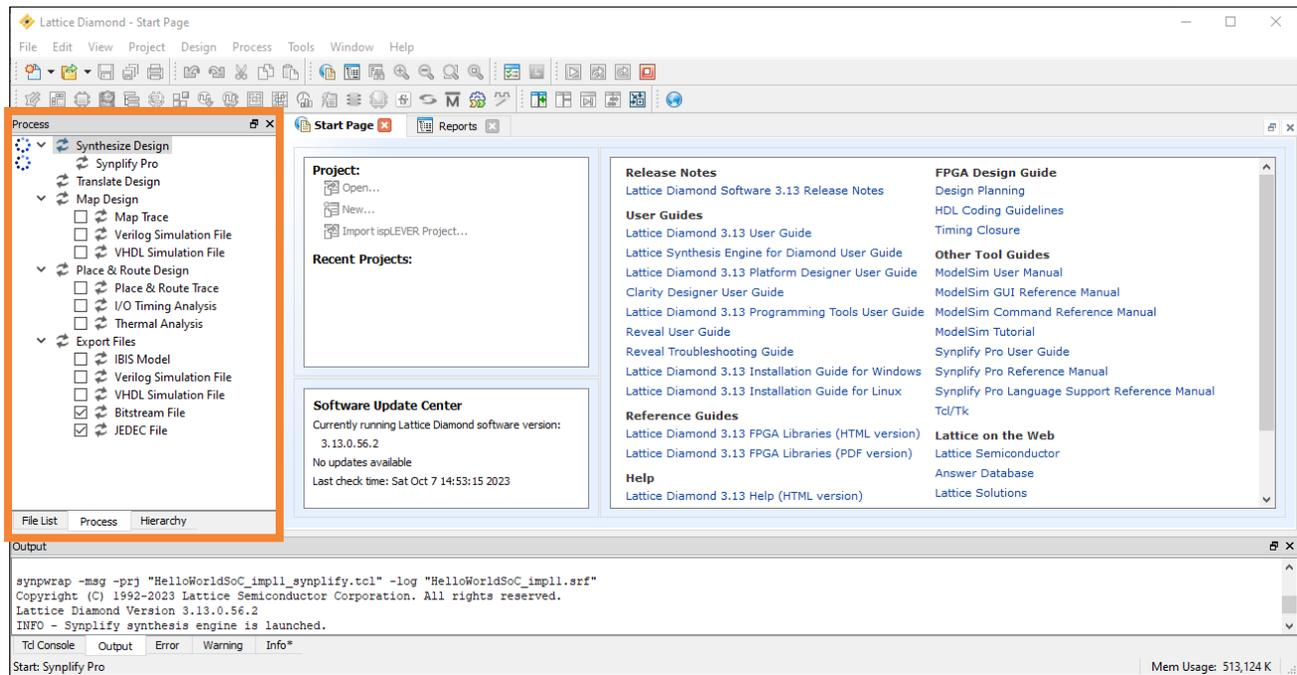

Figure 4.6. Generate Programming File
3. Switch to **Process** view of the Lattice Diamond project and make sure **Bitstream File** or **JEDEC File** is checked in the **Export Files** section (Figure 4.6).